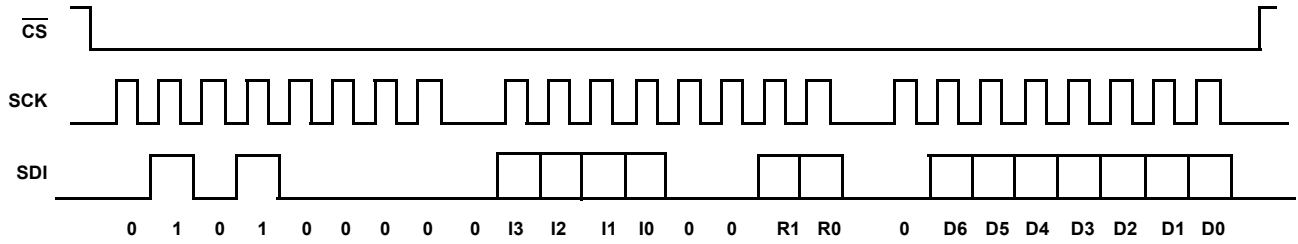

FIGURE 16. THREE BYTE WRITE SEQUENCE
operation by pulling the  $\overline{\text{CS}}$  pin from LOW to HIGH. For a write to address 0 (WR), the byte at address 2 (ACR<7>) determines if the Data Byte is to be written to volatile or both volatile and non-volatile registers. Refer to "Memory Description" on page 10 and Figure 16.